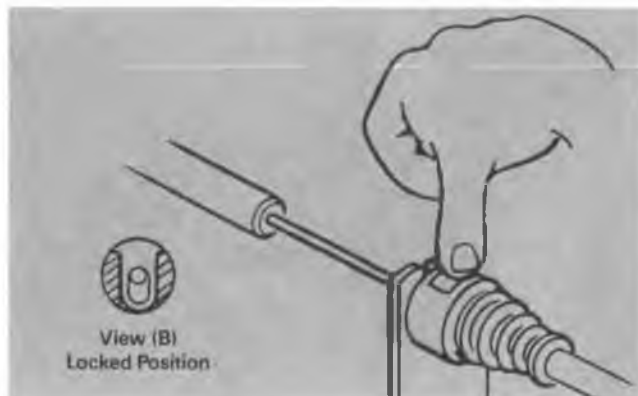

Figure 7-6 Cable Installation
Step 6 Lock cable conduit by pushing down firmly on lock until it locks in place (Figure 7-6).
- Step 4 While holding cable conduit, push down firmly on cable conduit lock until it locks in place (Figure 7-6).